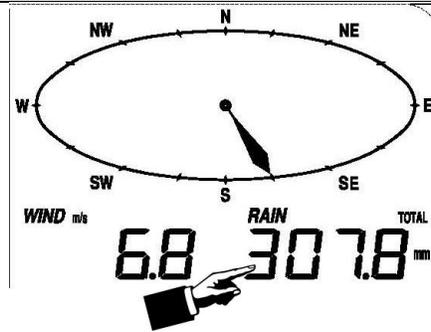

Figure 13
1. Touch the rain once, as shown in Figure 13. The rain will begin flashing and the  button and  button will be flashing (in the tendency section of the display).